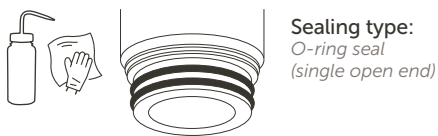

Figure 28.
7. Wet the O-rings with DI water or IPA to ease insertion of the cartridges into the housing cartridge slot, Figure 28.